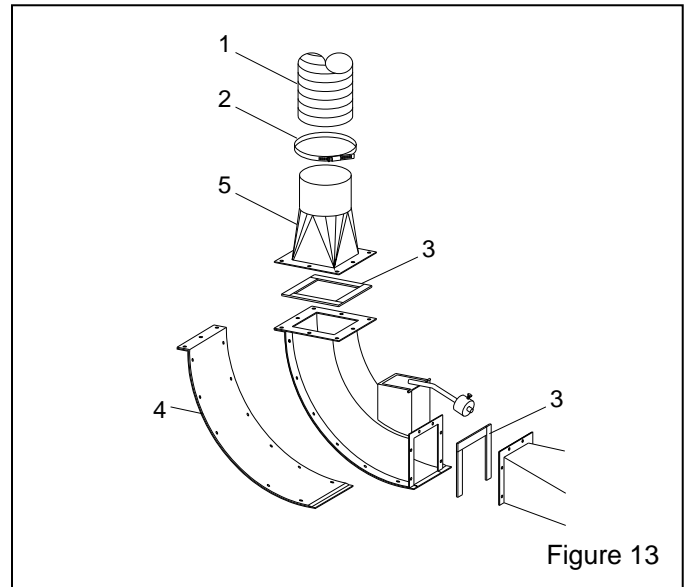

Figure 13
14.3 Transition Elbow Assembly, Figure 13